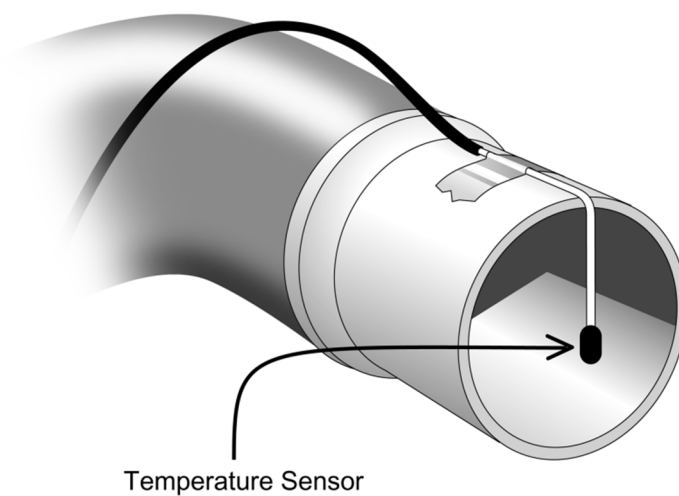

Figure 3 Delivery hose outlet showing temperature sensor position
4	<p>The temperature control system is verified as follows:</p> <ul style="list-style-type: none"> • Ensure unit itself has not been brought in from a very cold/hot environment just prior to testing. If unit was not kept in test environments then the unit should be kept at ambient test conditions for a reasonable time or run unit at ambient mode at test conditions for at least 10 min prior to conducting this test • Ensure the delivery hose cover is undamaged and that it covers the entire hose. • Ensure the environmental conditions are 20°C (68° F) to 22°C (71.6° F), 30% to 70% relative humidity, non-condensing. • Place the digital thermometer sensor in the centre of the delivery hose outlet as shown in Figure 3. • Select required temperature settings (34, 40, 43 or 46) as well as fan settings (high or low) . • Check that the temperature of delivered air stabilises within five (5) minutes following a change in set temperature. • Check that the temperature of delivered air corresponds with the set temperature to within $\pm 2^{\circ}\text{C}$ (3.6°F). • Note that some variation between the set temperature and temperature of delivered air is possible because of heat loss that occurs in the delivery hose. The magnitude of the heat loss will depend on the ambient temperature and the degree to which the hose is bent, longitudinally compressed or extended.
4	Place the digital thermometer sensor in the centre of the delivery hose outlet as shown in Figure 3 above.